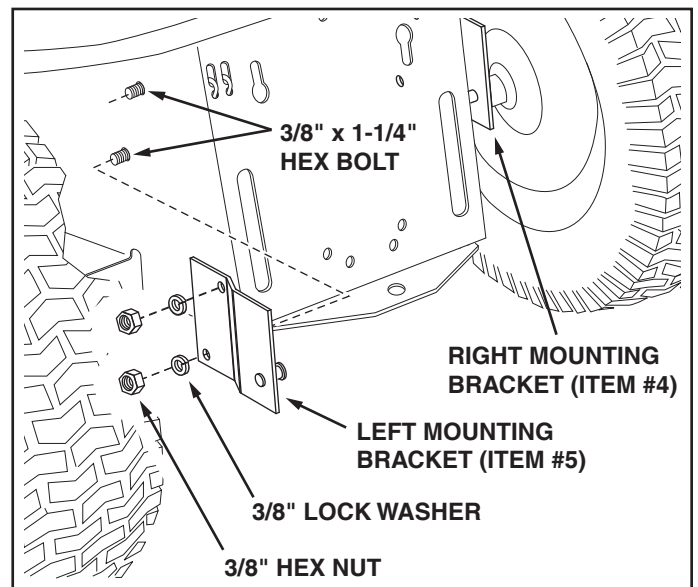

FIGURE 3
3. Install two 3/8" x 1-1/4" hex bolts in each side of the tractor as shown. Attach the right and left Mounting Brackets (items 4 and 5 in carton contents) to the bolts using two 3/8" lock washers and 3/8" hex nuts. The weld pins must face inward. See figure 3.